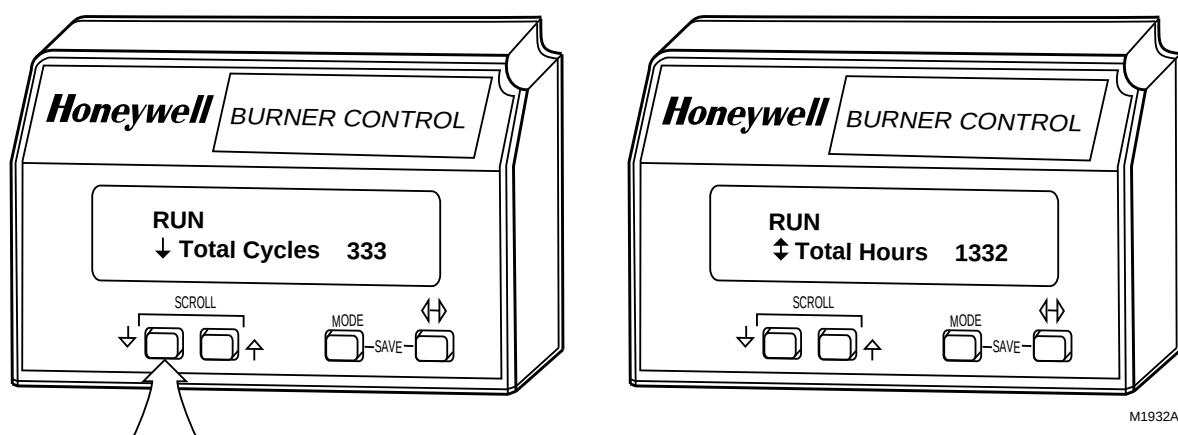

Fig. 18. (↕) SCROLL pushbutton function.
① SCROLL Down-Up pushbuttons (↕), see Fig. 18.